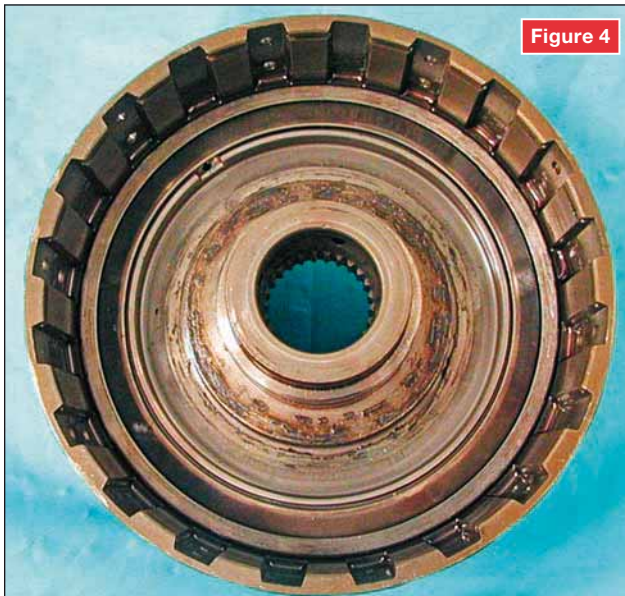

Figure 4
Figure 4 is the data collected at wide-open throttle acceleration, or the Volumetric Efficiency (VE) portion of the test drive. Data point No. 1 is showing the engine at wide-open throttle. Point No. 2, engine load, is showing a maximum of 88 percent load at wide-open throttle at the 1-2 shift point. This is a little low for this platform. The known good value should be 99 percent engine load. This is another piece of information to store in your mind.